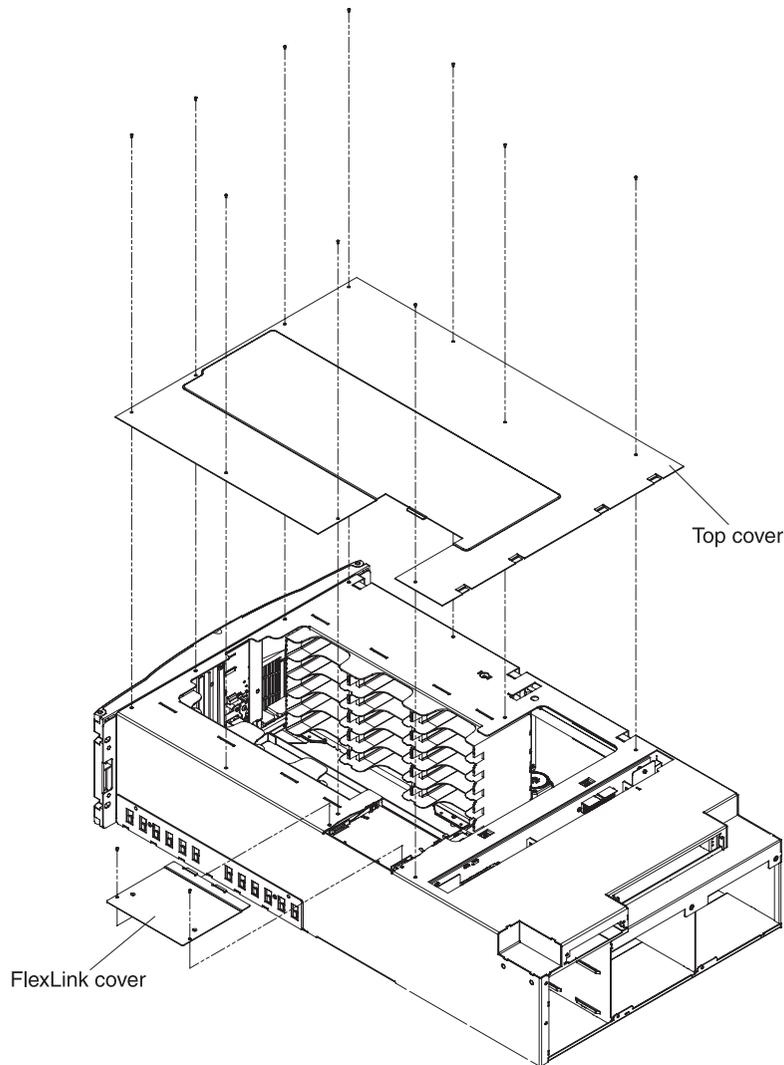

Figure 5. Removing the FlexLink cover and top cover plate
1. Place the library on a flat surface and remove the 12 Phillips screws that secure the FlexLink cover and top cover to the library chassis, as shown in Figure 5.